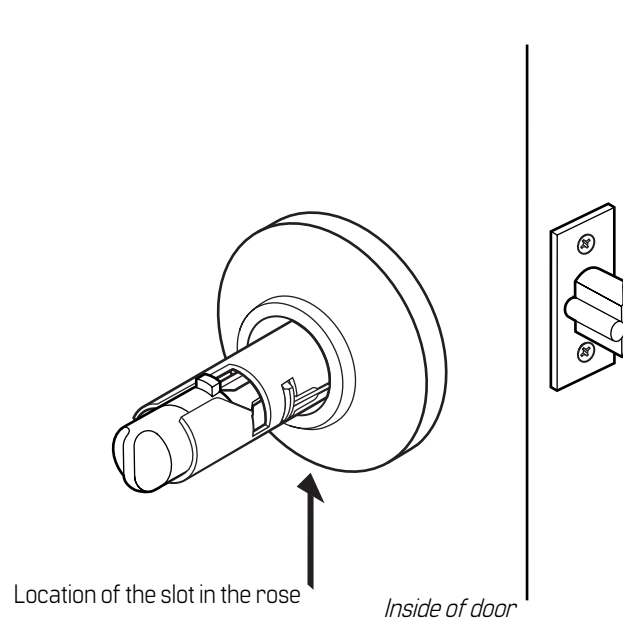

**Figure 3.3** Reinstalling the lever (keyed lever shown)
1. Position the lever so that the handle points toward the door hinges, as shown in Figure 3.3.